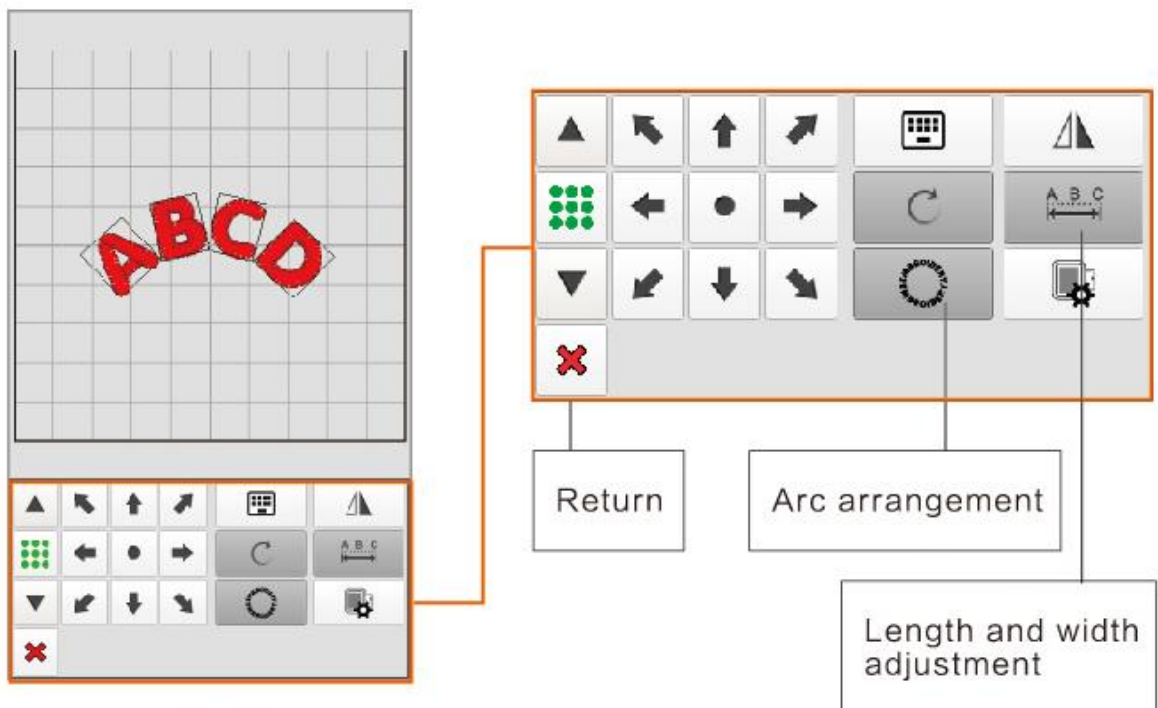

Figure 11
③ After confirmation, enter the interface in Figure 11, adjust the letter arrangement, arc arrangement, combination, rotation, mirror image and other editing. Select the hoop with appropriate size, then press the return key to confirm the embroidery.